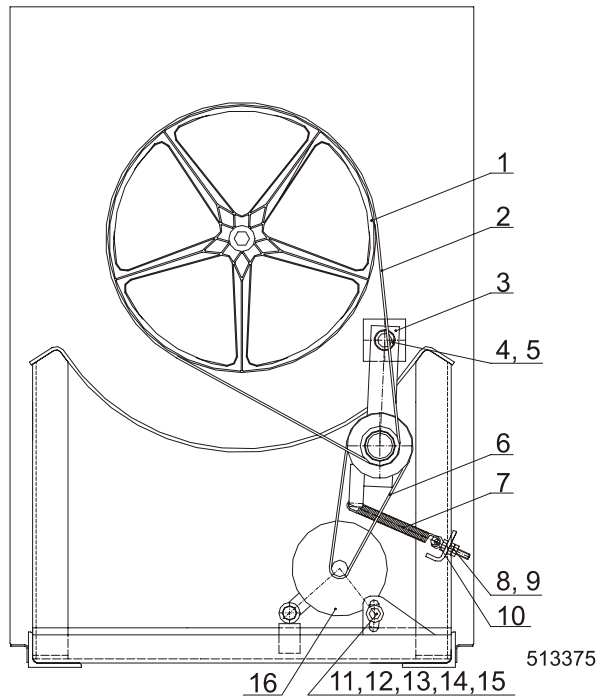

Fig.5.8.B. Flat belt, valid for 10 kg / 25 lb
- Remove the belt, fig.5.8.C., pos.2 pulling it while the drum pulley (1) is rotating at same time.
- Put a new belt (2) of same type on the pulley. Installation of the belt is done in reverse order compared to its removal. Take care so that the tension spring (6) would be fasten to the motor board (5) and to the holder on the frame.
- The belt must be placed in the correct grooves of the motor pulley, so that it could move in the middle of the drum pulley width (1).
- You can change tension of belts (2) if you change clamping of spring on the motor board, or possibly on the frame.